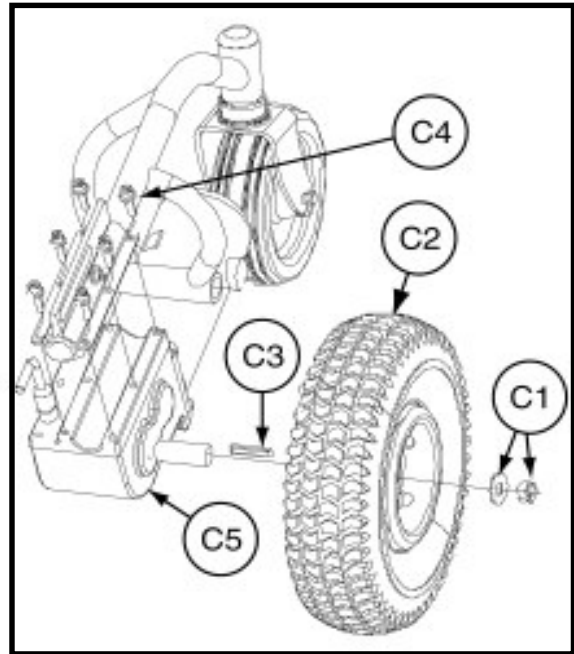

Figure 2. Left Drive Wheel and Motor
3. Remove the center nut and washer (C1) on the wheel hub, using a 17-mm deep-dish socket wrench, and pull off the drive wheel assembly (C2). See figure 2.